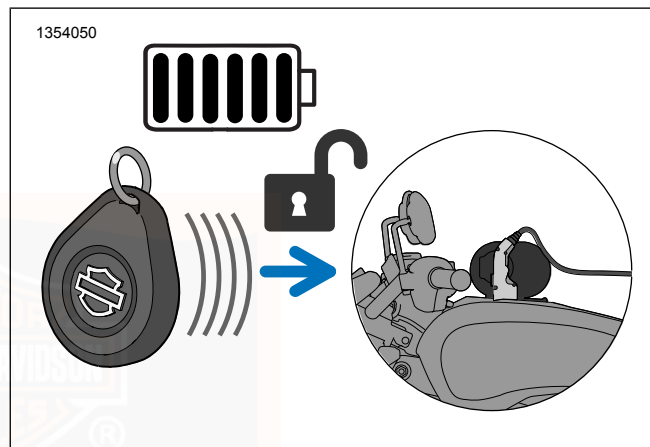
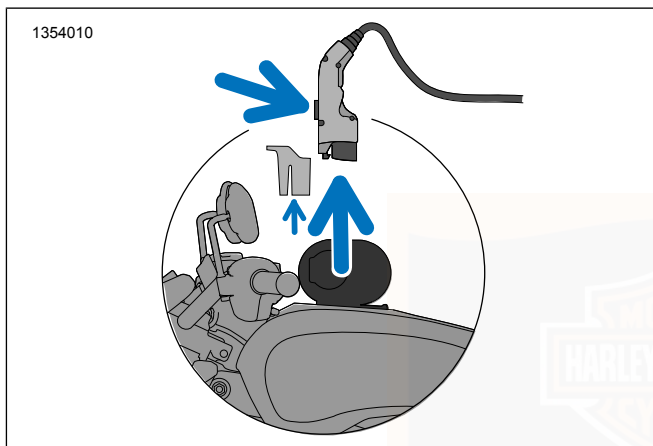

Figure 13. EVSE Coupler - Fob Present to Unlock Coupler
Figure 14. EVSE - Remove Coupler
6. Disconnect COUPLER when the charge is complete by bringing fob to motorcycle, pressing the release button on the COUPLER and removing it from the vehicle. See Figure 13 and Figure 14.